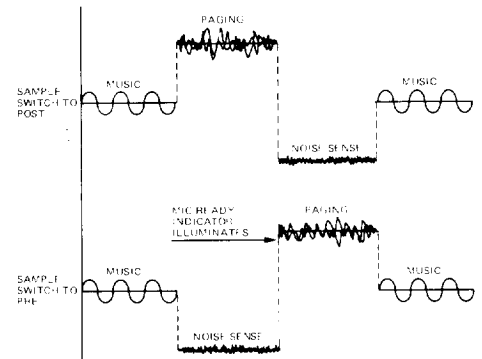

Figure 1. Noise Sampling Functional Sequence
- (1) Preamplifier (if used) providing input to paging channel
- (2) PAGE LEVEL control of NOALA, on either side of nominal '5' setting
- (3) Power amplifier
- a. With the SAMPLE PRE/PAGE switch at PAGE (released), noise sampling occurs for a period of approximately 3 seconds each time the microphone 'push-to-talk' button is *released*. Thus the NOALA corrects system gain each time a paging program is terminated. Introducing a subsequent paging program before the noise sampling period is completed will override the noise sampling function. Figure 1 illustrates the sequence of events for music program, paging program, and noise sampling.
NOALA corrects paging system gain just before each paging program begins (see Figure 1). The MIC READY indicator illuminates each time the noise sensing period is complete, providing a convenient cue that the paging program may begin. If necessary, the noise sensing period may be overridden by immediately introducing the paging program.